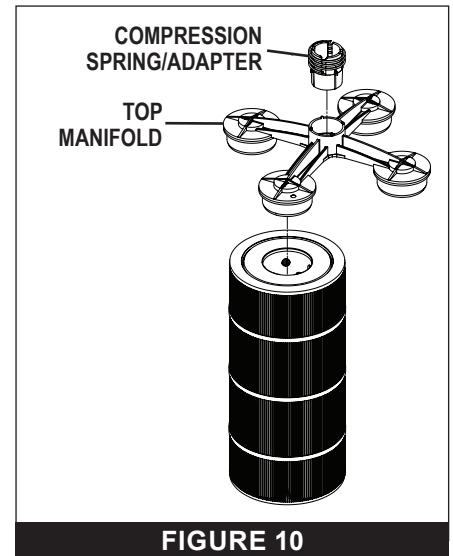

FIGURE 10
2. Remove the Compression Spring/Adapter from the Top Manifold. Refer to **FIGURE 10**.
3. Remove the Top Manifold (**FIGURE 10**) from the filter cartridges and lay the manifold aside.